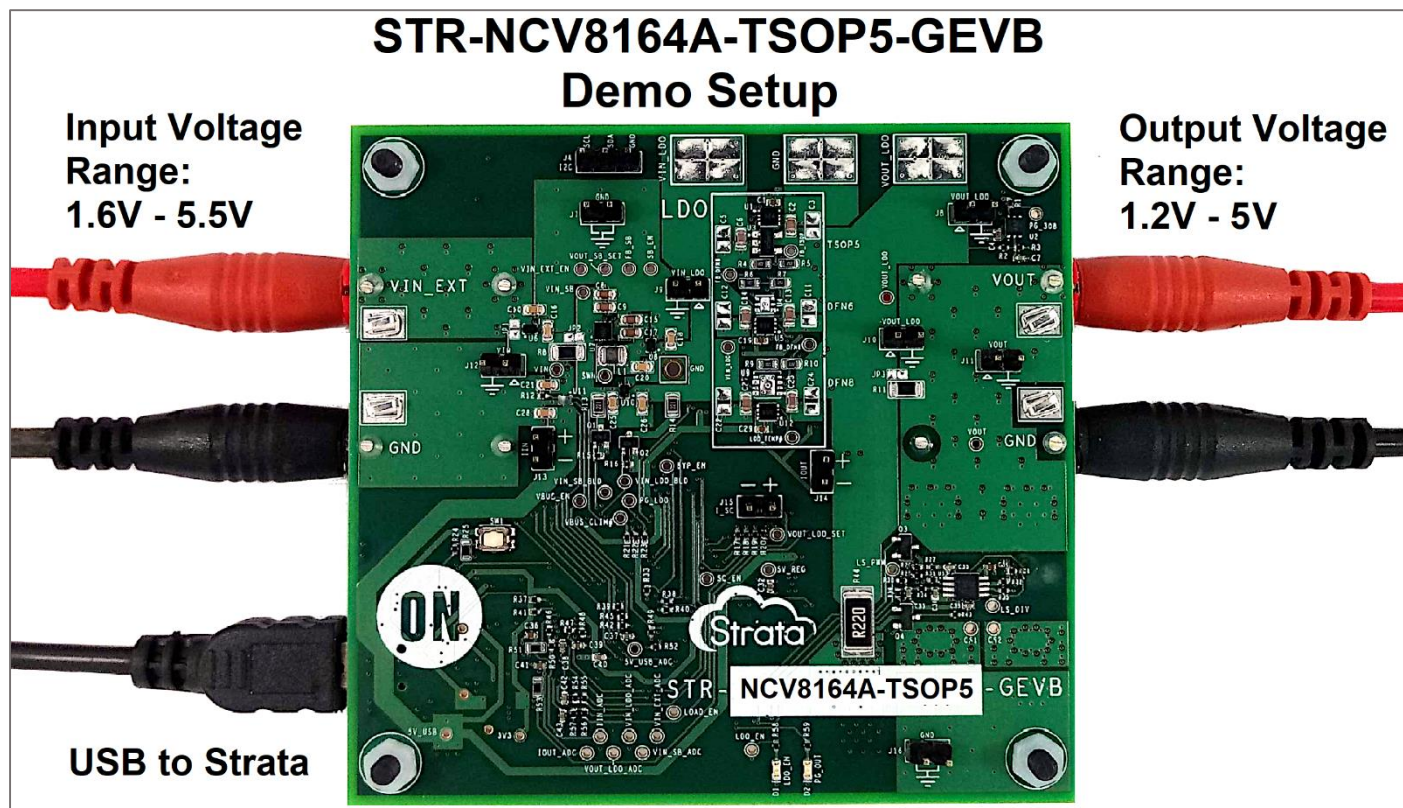

Figure 1: EVB demo setup
3. A picture of the setup can be found in Figure 1. The red power cables denote positive polarity with respect to the black power cables, which are connected to the board's common ground.